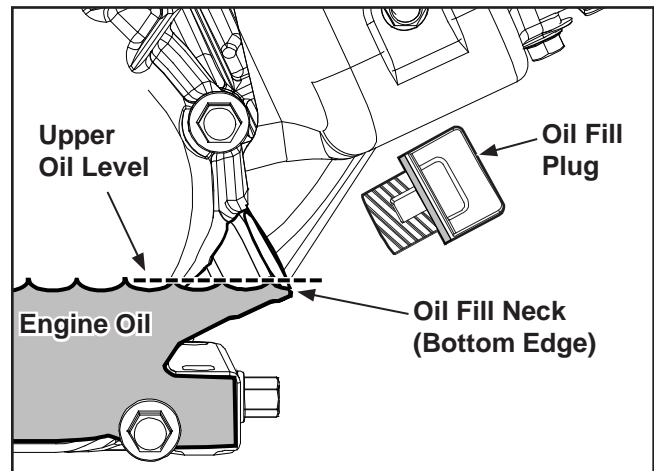

Figure 6-6. Oil Fill Plug Oil Level Check.
**Checking oil level with an oil fill plug.** Unscrew and remove the oil fill plug. The level should be up to but not over, the point of overflowing the filler neck. See Figure 6-6.